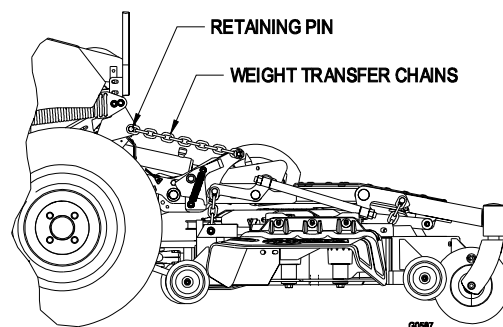

**FIGURE 2**
- 3.1.3 On the tractor, release the two retaining pins on the hitch latches so the latches can actuate freely. Raise the floor pan and lock in upright position. (See Figure 2).